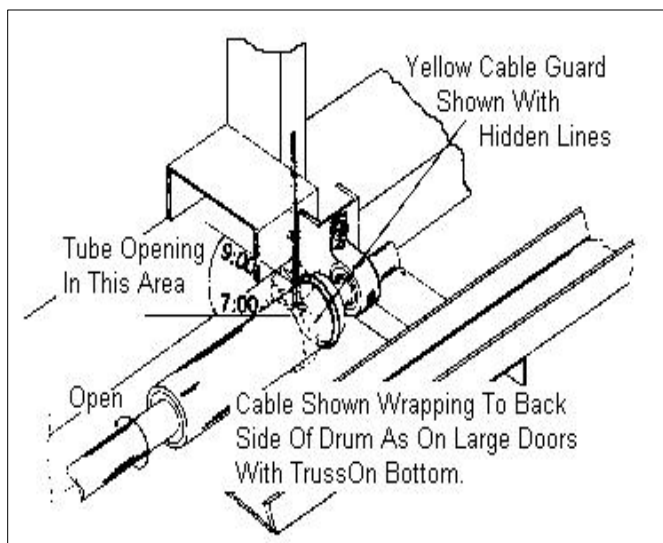
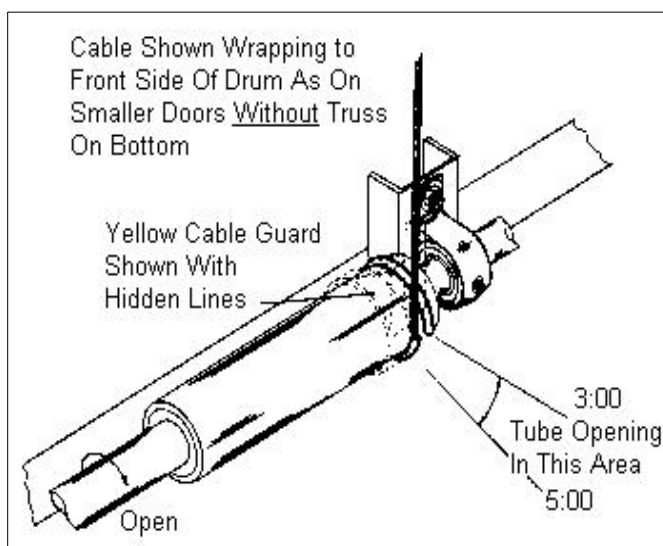
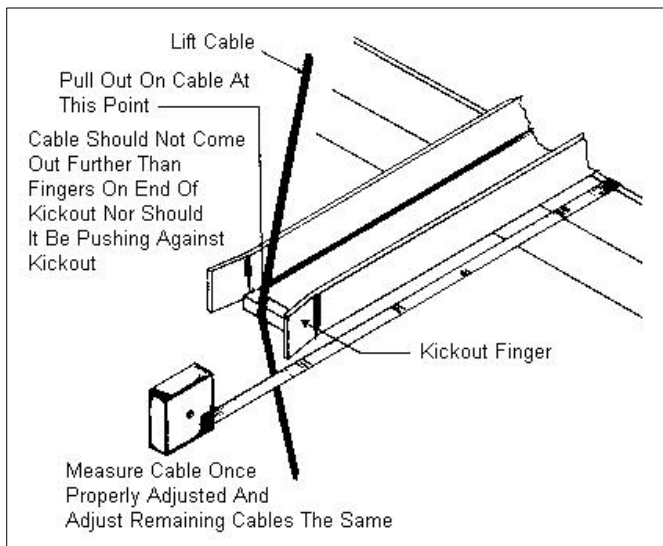

Figure 60 Adjusting drive shaft for proper stopping position—large doors
Figure 61 Adjusting drive shaft for proper stopping position—small doors
Figure 62 Adjusting lift cables
2. Install lock components as show in **Figure 60.** Take care to assure that all parts move freely.
The drive shaft should be set so it stops with the lift cables fully unwrapped and the cable tube end between 7 and 9 o'clock on drive shafts that wrap to the back side of the drum, **SEE Figure 60 Page 38.** and between 3 and 5 o'clock on drive shafts that wrap to the front side of the drum. **SEE Figure 61 Page 38.** Next the door should be in the locked position with lock adjustment being performed previously. *The cables should be adjusted so as tight enough not to be able to be pulled beyond the kick-out fingers but still loose enough so as not to have any tension on them when door is locked. **SEE Figure 62 Page 39.** Once one cable is adjusted properly, measure out from the center of door structure to the cable. This distance can then be used to set the remaining lift cables. A tolerance of plus or minus 1/8" should be held.